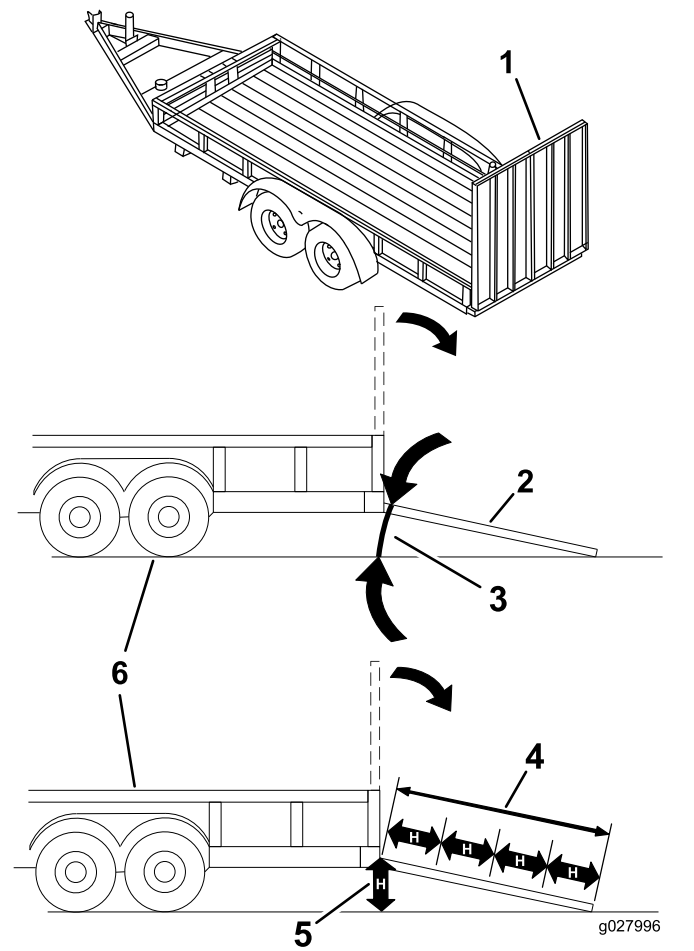

Figure 38
Loading a machine onto a trailer or truck increases the possibility of tip-over and could cause serious injury or death (Figure 38).
3. Lower the ramp, ensuring that the angle between the ramp and the ground does not exceed 15 degrees (Figure 38).
1. Lower the ramp, ensuring that the angle between the ramp and the ground does not exceed 15 degrees (Figure 38).